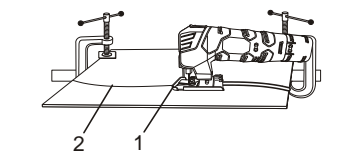

Fig. 7
3. Rest the front of the detail saw base plate (1) on the workpiece and align cutting edge of the blade with the cutting line (2) on your workpiece (Fig. 7).